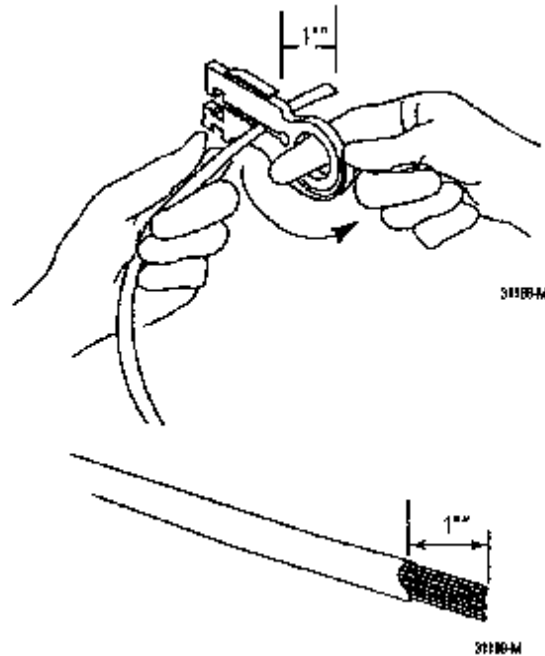

Figure 5.1 Stripping the cable jacket.
1. Using a stripping tool similar to the one in Figure 5.1, strip back 1 inch of jacket. Be careful not to cut the insulation of the wire. If you damage the wire insulation, cut off the end of the cable and start over.